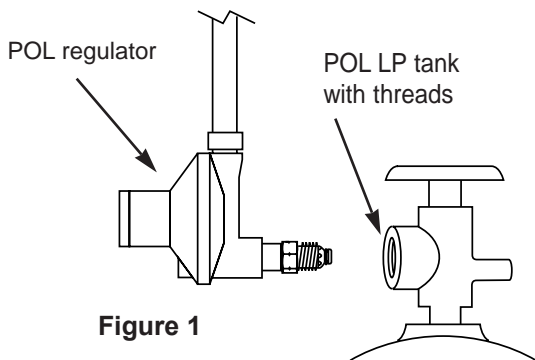
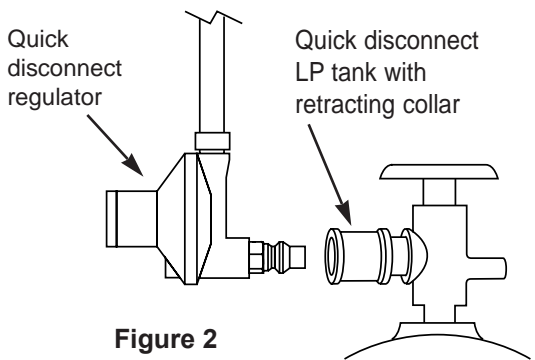

Figure 1
Figure 2
If you have a tank that looks like Figure 1 below, you will need to either purchase a LP tank adapter, or purchase a quick disconnect LP tank that looks like Figure 2 below. To purchase the LP tank adapter, write to Weber-Stephen Products Co., Customer Service Center, 250 South Hicks Road, Palatine, IL 60067-6241, or call (800) 446-1071.